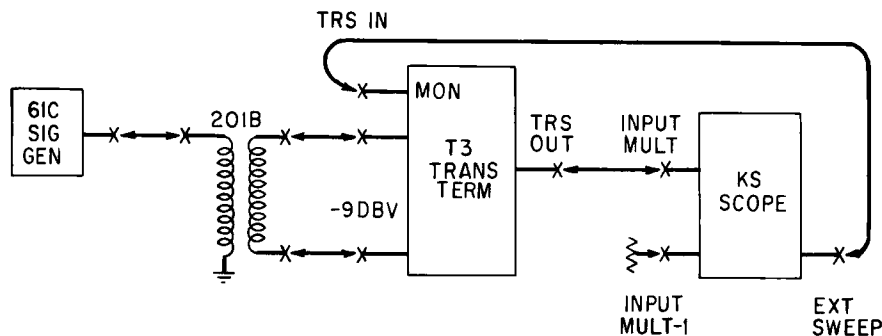

Fig. 25 - Test Arrangement for Carrier Level Control Test
(6) Set up test arrangement of Fig. 25. Turn the sweep frequency switch of the oscilloscope to EXT position and set the H gain control of oscilloscope to maximum. Set SYNC AMP of signal generator to zero output.